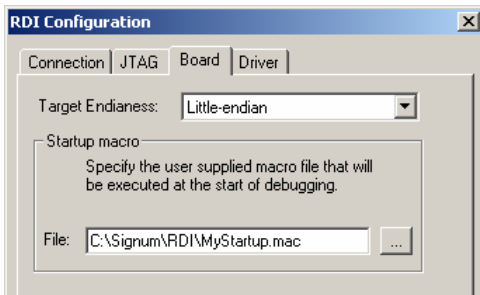

FIGURE 24 Configuring the emulator: the Board tab.
- Click the Board tab and select the endianness of your target board (Figure 24), and then browse for a board startup macro file or leave the File field empty.